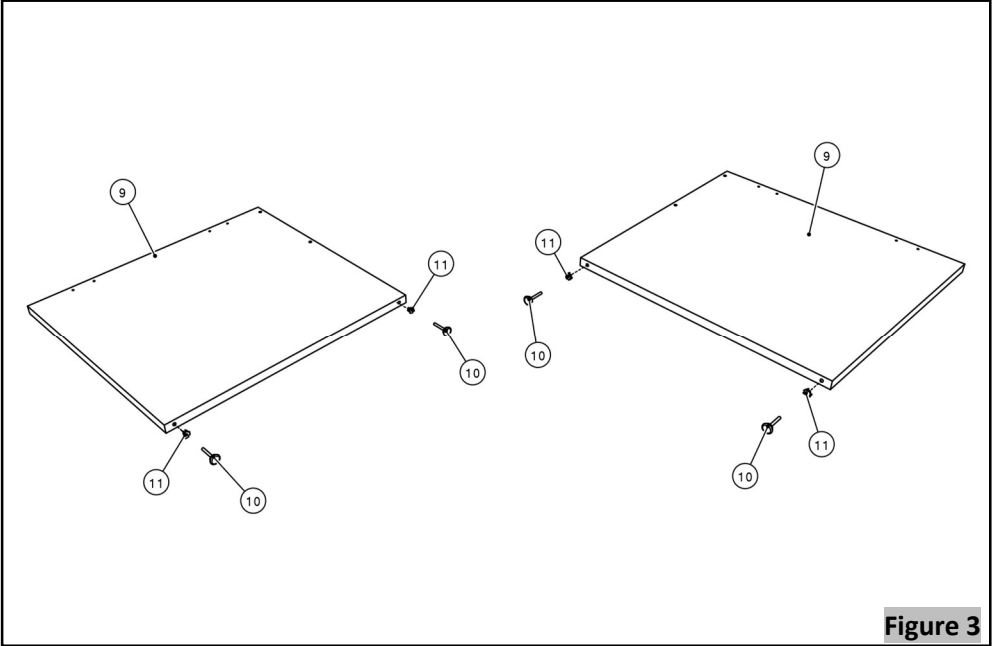

Figure 3
- 6. Unscrew the glides (10) of the laminate end gables (9) and pry the “T” nut (11), **Figure 3**. Place them in the recycle bin containing steel materials.
- 7. Place the laminate end gables (9) in the waste bin.